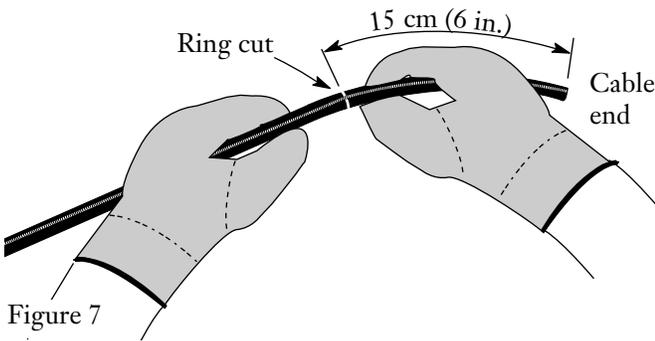

Figure 7
4.7 Gently bend the cable at the ring cut to break the armor. DO NOT exceed the minimum bend radius of the cable during this step (Figure 7).